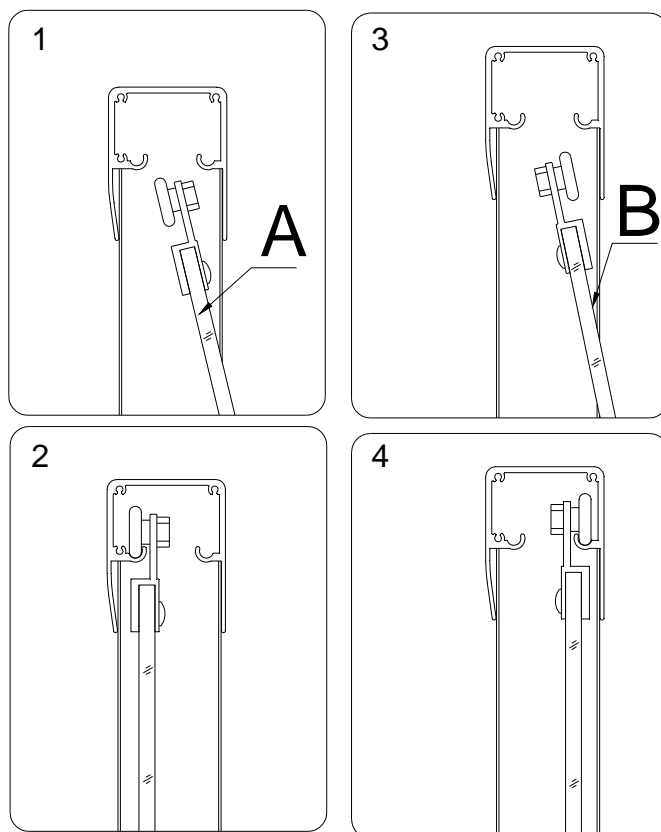
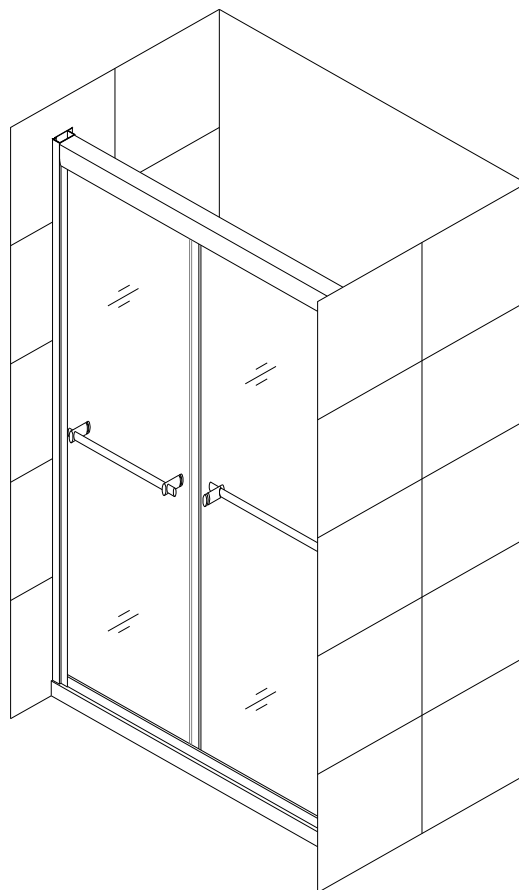

Fig. 13
Fig. 14
9. One by one suspend both **Glass doors** onto the **Upper guide rail** as shown on Fig.13. Tilt the **Glass door (A)** a little to make the glass slide into the channel of guide rail. Suspend the **Glass door (B)** to the guide rail the same way.
See Fig. 13 and Fig. 14 for details